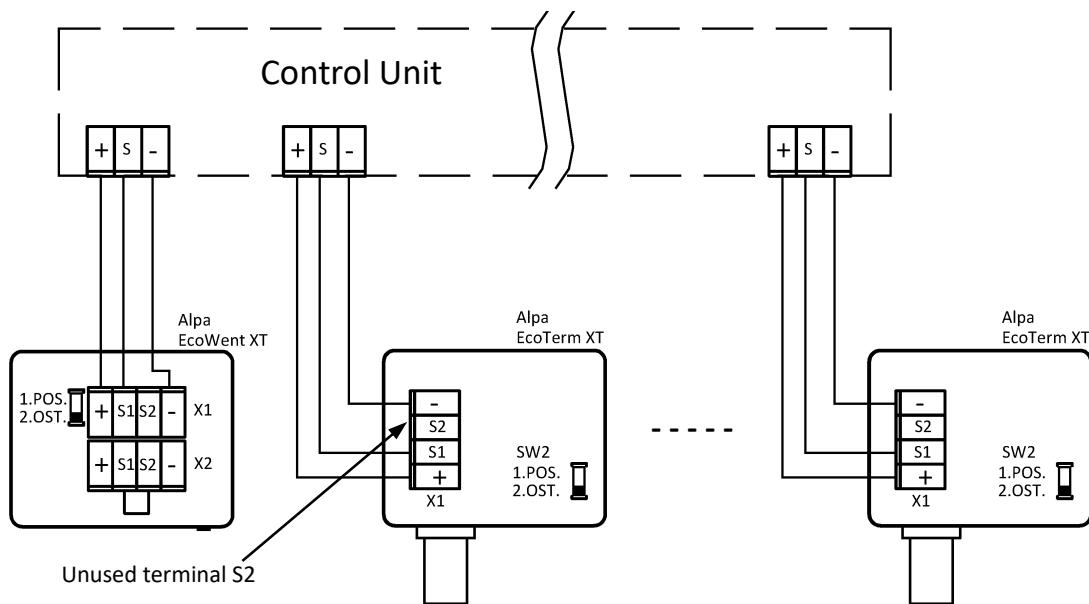

Figure 8: Connection into the star system
- / Connect the output of the first detector to the cable going into the control unit. The configuration switch in the detector should be in position 2 (last detector) – see Figure 8.